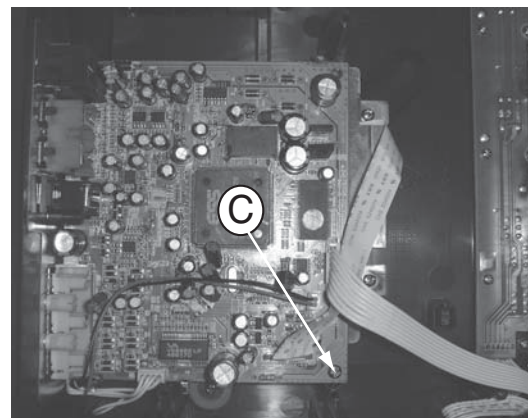

Figure 3
- 2) Loosen 1 screw "C" at the main board as shown in figure 3.